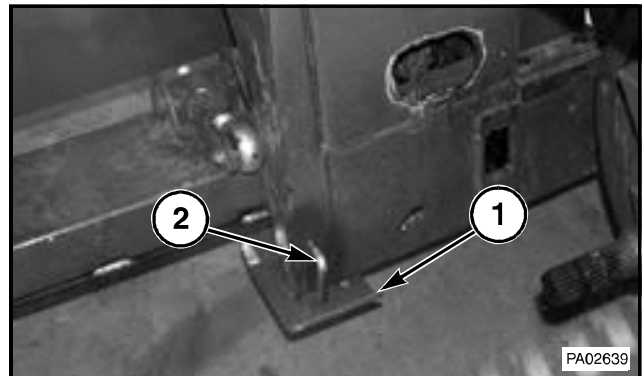

FIG. 6
FIG. 6: The parking stands (1) are used to support the header when disconnecting the header from the machine. The stands hold the header in the correct position when removing and attaching the header to the machine.